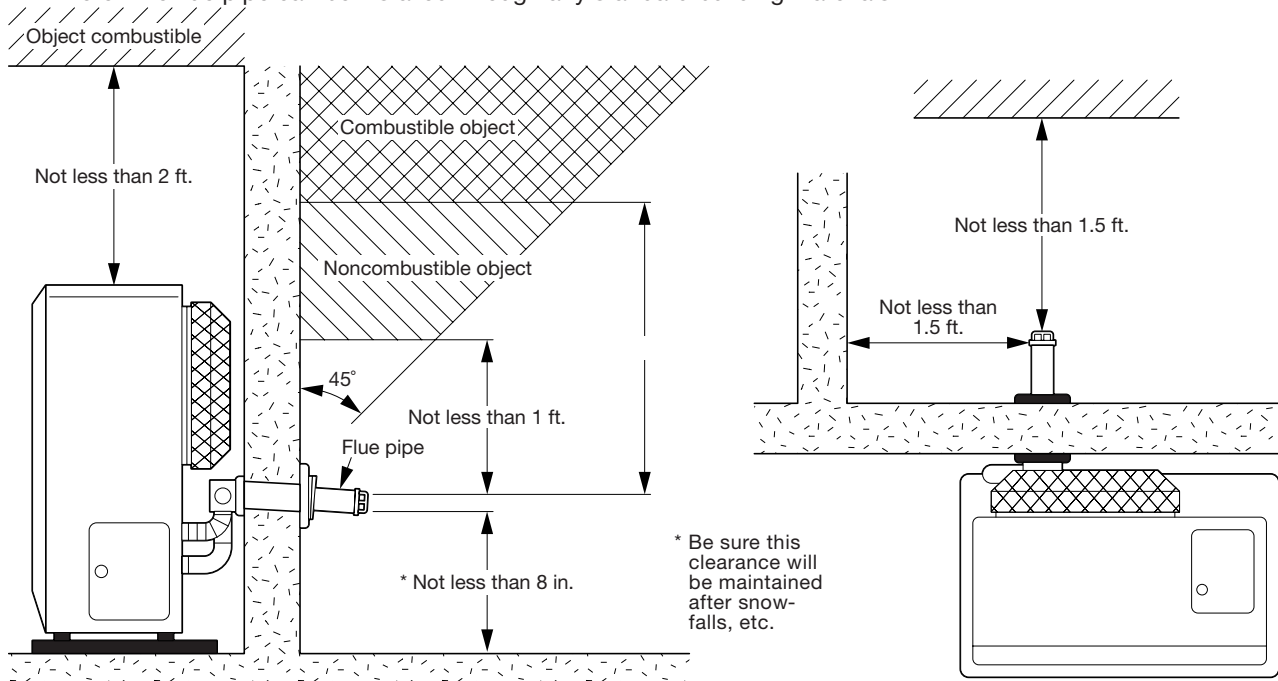

Fig. 2
When using the "Extension pipe (M)" extension kit, the distance between the heater exhaust pipe connection and the flue pipe connection must be at least 25-⁵/₈ inch but no more than 42-¹/₂ inch. (See Figure 2 for reference.)
2. Make sure that the outside area to where the flue pipe will reach is clear of any objects. (See Fig. 2 & 3)
CAUTION! The standard flue pipe installation, as shown in Fig. 2, is for wall thickness from 4 in. to 9 in. ONLY.